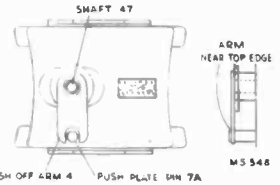

FIG. 7
2. Place push-off arm 4 over push-off cam shaft 47, and engage push-off plate pin 7A near the top edge, fig. 7. Tighten set screws.